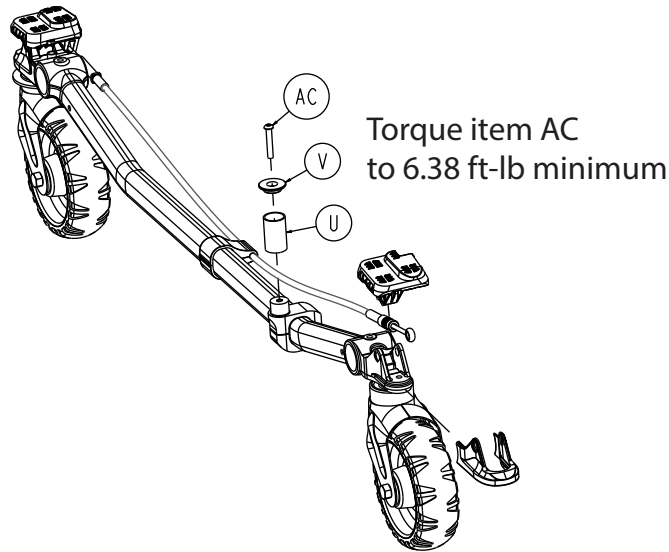

Figure 27 – Remove and discard the button head cap screw
1. Using a T27 Torx driver, remove the button head cap screw (AC) that secures the retaining post cap (V) and retaining post body (U) to the top bracket (Figure 27). Discard the screw.